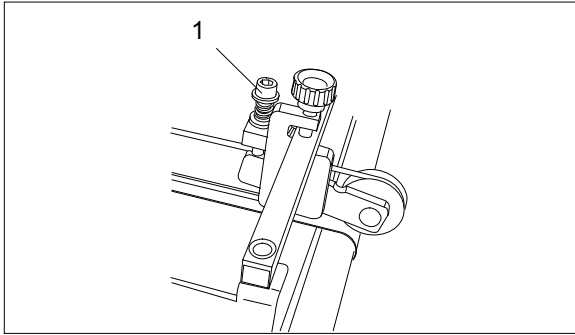

Fig. 70 Setting
7. Set the pressure of the round belts to the paper thickness by turning the Allen screws (Fig. 70/1).